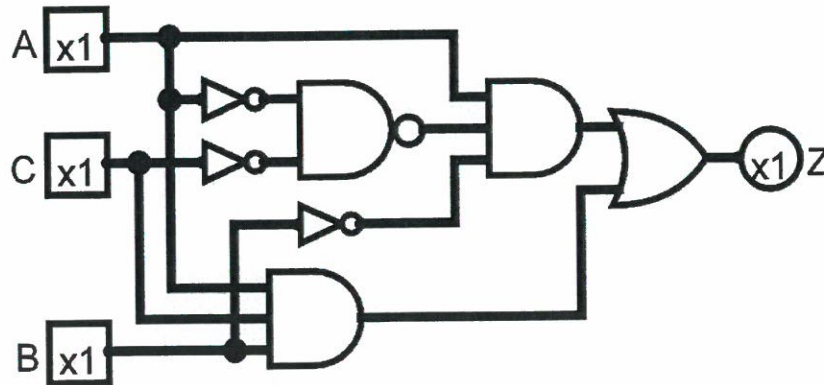

Figure 3(b)
- (b) Find the Boolean expression of Z in Figure 3(b) and present the expression to the minimum using Boolean simplification only. Use one IC of your choice to represent the simplified expression. Show working clearly.